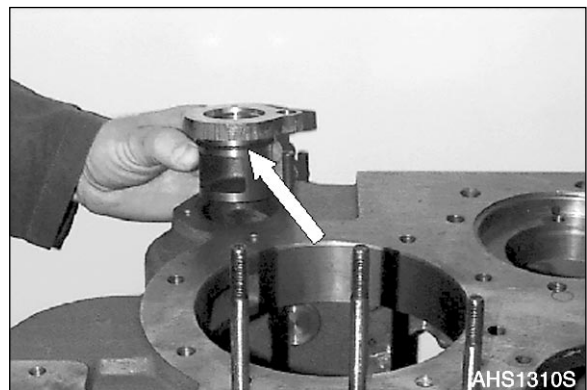

Figure 171
2. Line up O-ring (Figure 171).